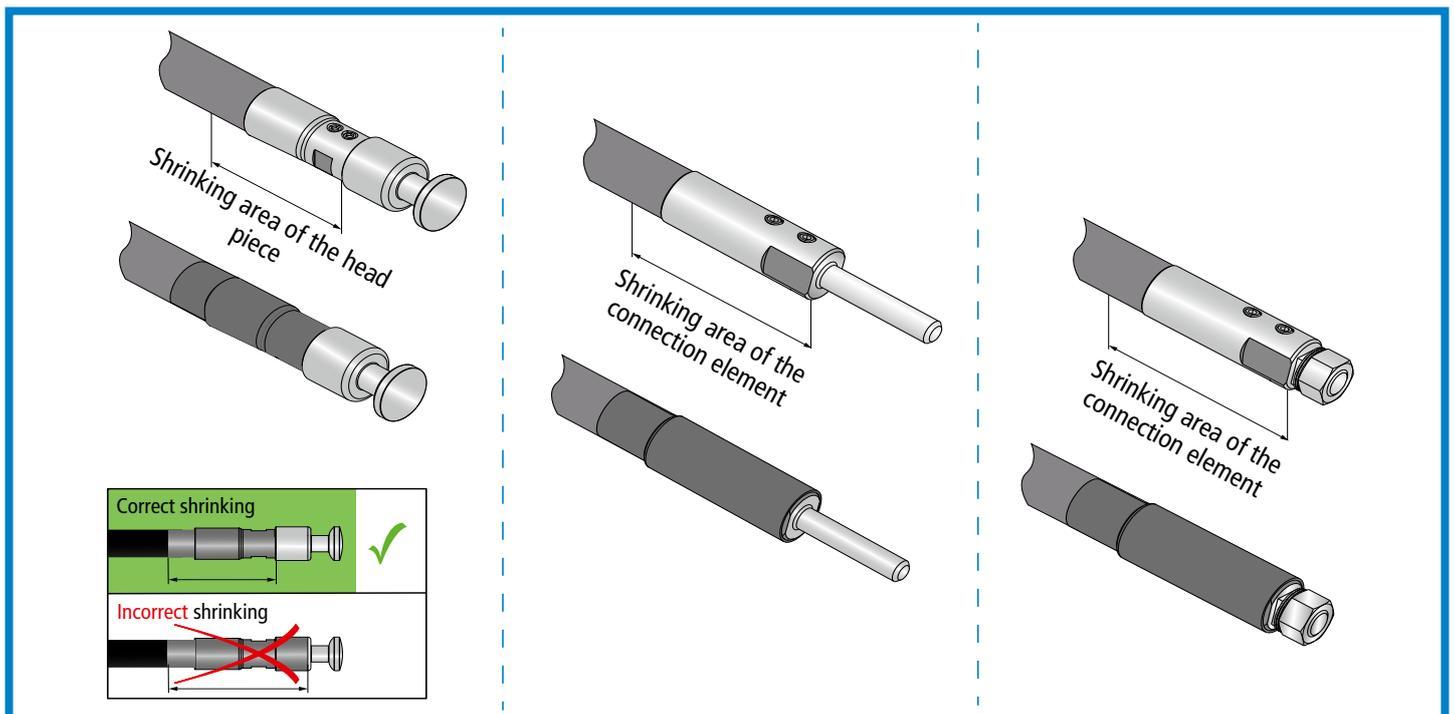

Figure 3 Wrapping a heat shrinkable sleeve around the head piece/connection element
- The indicated shrinking area from the head piece/connection element to the **HVI®Conductor** must be observed (Fig. 3).